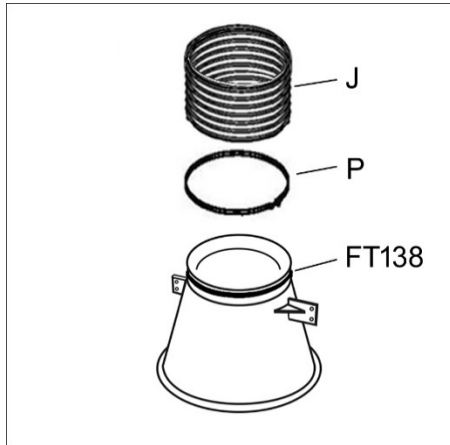

Figure 5-6
9. Turn cone upside down. See Figure 5-6.
11. Work the hose (J) onto the cone, and secure with clamp (P).